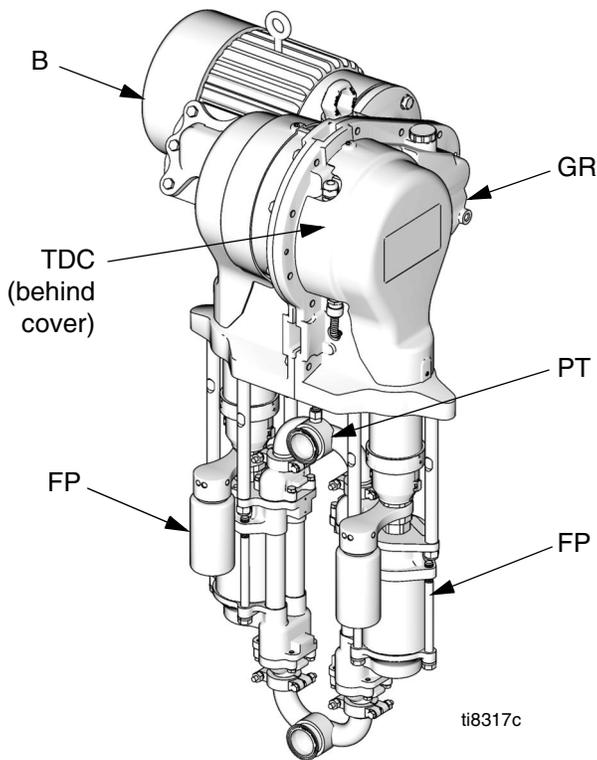
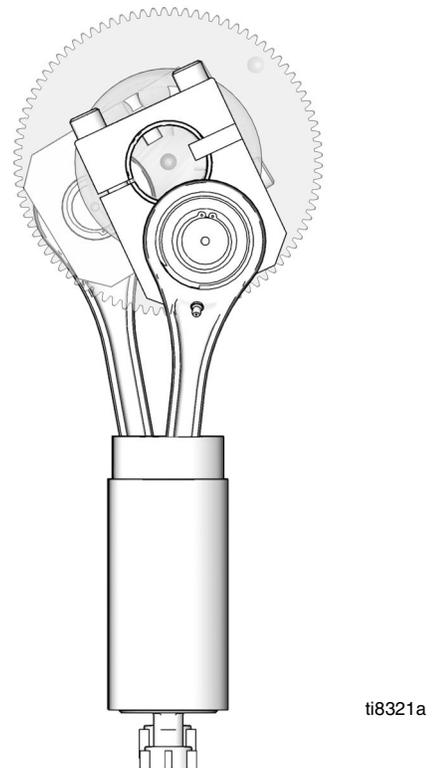

FIG. 1. Electric Circulation Pump
FIG. 2. Cutaway Showing Offset Stroke Positions
An electric motor (B) provides input to a 75:1 gear reducer (GR), which drives two fluid pumps (FP). See FIG. 1. The stroke positions of the two pumps are offset to achieve consistent flow from the pump assembly. See FIG. 2.